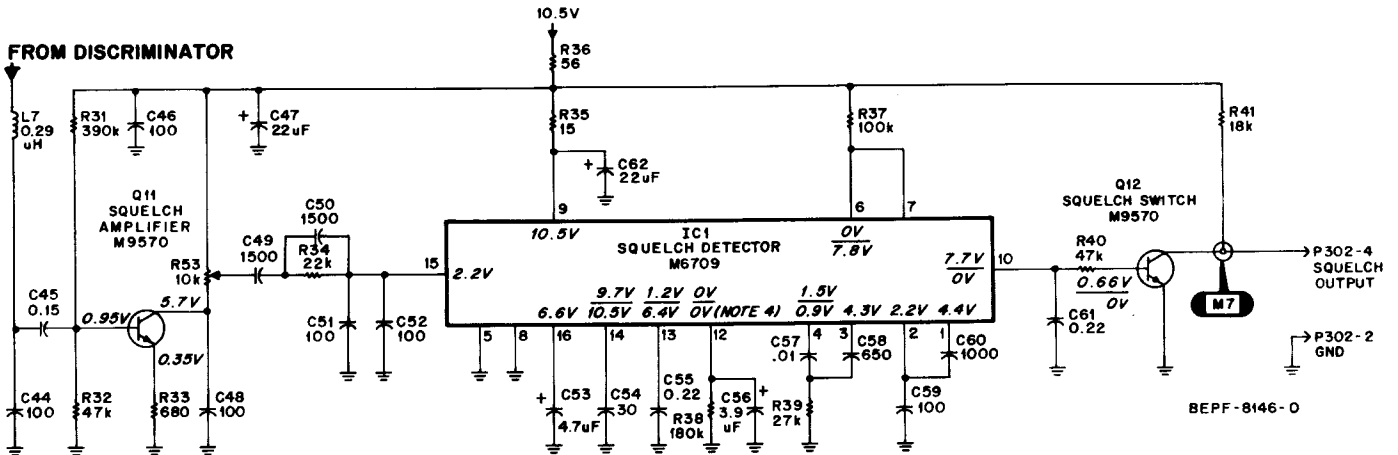

Figure 82. Typical Squelch Stages
(5) Squelch Stages (Refer to Figure 82)